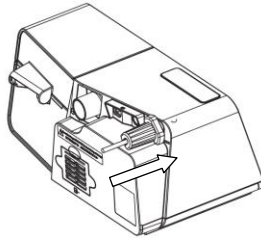

Fig. 10-6
(3) Insert the power cord locker into the buckle of DC inlet, as shown in Fig. 10-6.